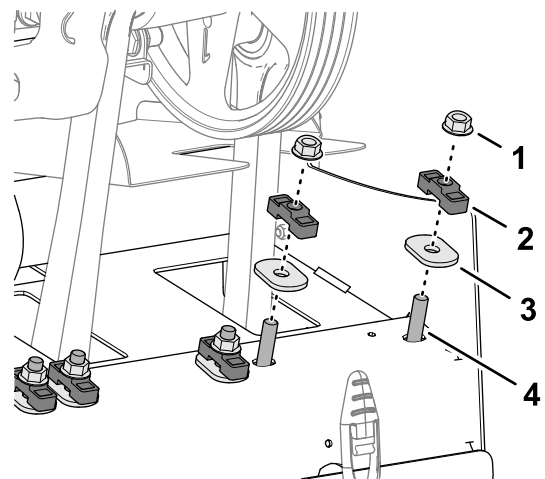

Figure 121
1. Remove the 2 flange locknuts that secure the roto-link dampener shaft to the rear frame of the machine (Figure 121).